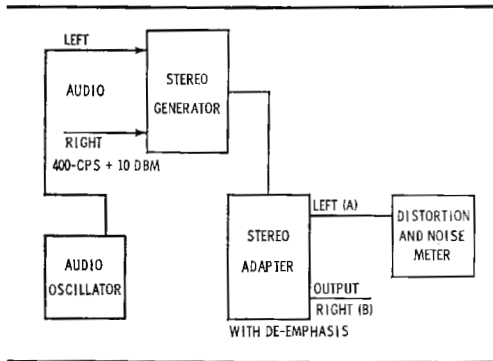

Fig. 8. Test setup for steps 3c and d; connect distortion meter to right channel
- (d) Without changing gain control settings, connect the distortion meter to the right channel output of the adapter, and adjust the adapter balance control for a minimum output of about -35 db. See Fig. 8 for test setup relating to tests 3c and d.